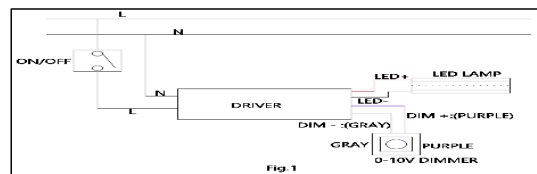

Fig.3
- Please note that this product is suitable for 0-10V dimmer switches. Connect the purple wire (+) and the gray wire (-) to the dimmer switch as shown in Fig. 3. BE SURE NO STRANDS ARE EXPOSED.
- Connect the power wires of the lamp together using the fast connector (P). Connect the black wire to the positive electrode and the white wire to the negative electrode of the fast connector (P).
- Gently tuck the wire connections(K) neatly into the ceiling junction box.
- Place the mounting plate(A) over the center of the ceiling junction box.
- Align holes in mounting plate(A) with holes in junction box and attach with two mounting screws(J). Secure screws with a Phillips head screwdriver.
- Push canopy(B) up over the mounting plate(A) until it is flush with the ceiling. Secure canopy(B) by 2 canopy screw(D) and secure screws with a Phillips head screwdriver.
- To ensure the melt glass pieces hang straight down and the cords be equidistant starting from the canopy, please assemble and fix the notching cap from inside out ②→①. Desired position spot is marked on cord with label sticker, this is where you can position the notching metal cap(H2) and H(1)on cord.